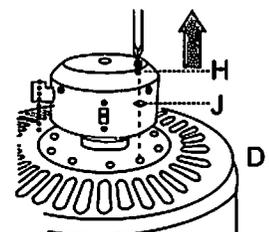

Fig. 5
5. Remove motor screws (H) and lock washers (J) from underside of motor. If necessary, discard plastic. [Fig. 5]
5. Insert remaining motor screws (H), along with lock washers (J). [Fig. 5] Tighten all motor screws (H) securely.